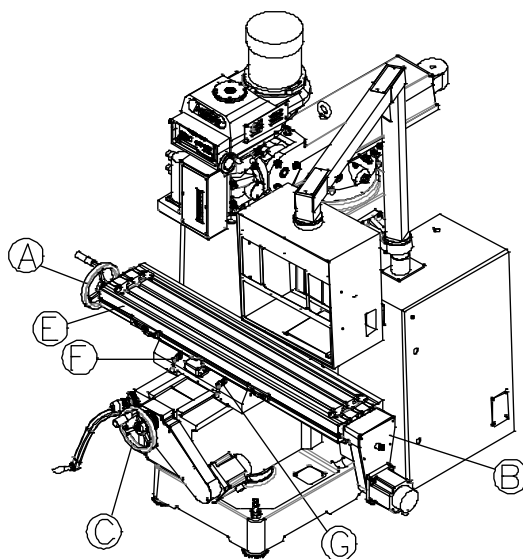

Fig. 6-7
6.2.2 Worktable Transverse and Vertical Movements (Fig.6-7)